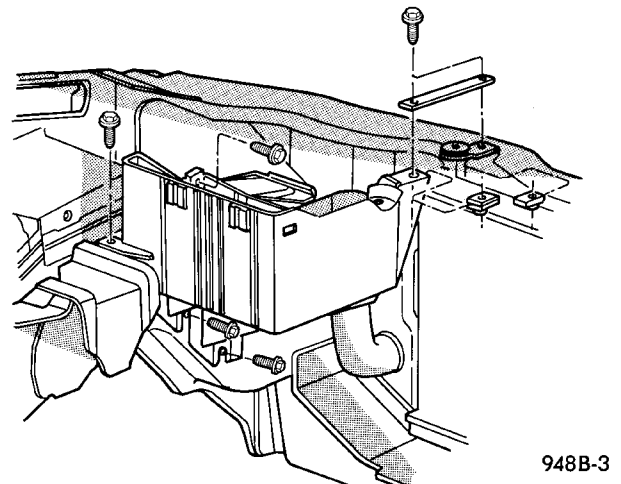

Fig. 20 Battery Tray Removal
- (1) Install battery in vehicle making sure that it is properly positioned on battery tray.
- (2) Install battery hold down clamp, making sure that it is properly positioned on battery.
- (3) Place thermoguard cover over the battery and snap it together with battery tray (Fig. 20). The battery tray pencil strut may have to be loosened on one end to install the thermoguard cover. After the thermoguard cover is in place, tighten pencil strut as necessary.
- (4) Connect battery cable clamps to battery posts and making sure top of clamp is flush or below with
- (1) Remove battery, refer to Battery Removal.
- (2) Remove battery tray pencil strut. Remove battery tray, refer to (Fig. 20).